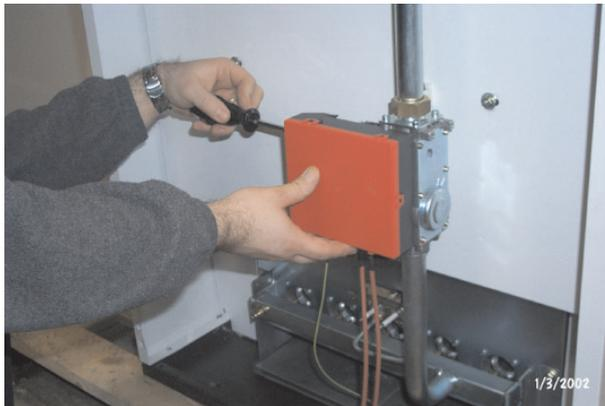

fig. 17
- Unscrew the two screws securing the electronic flame controller to the gas valve (Fig. 17) and extract it from this valve (Fig. 18).